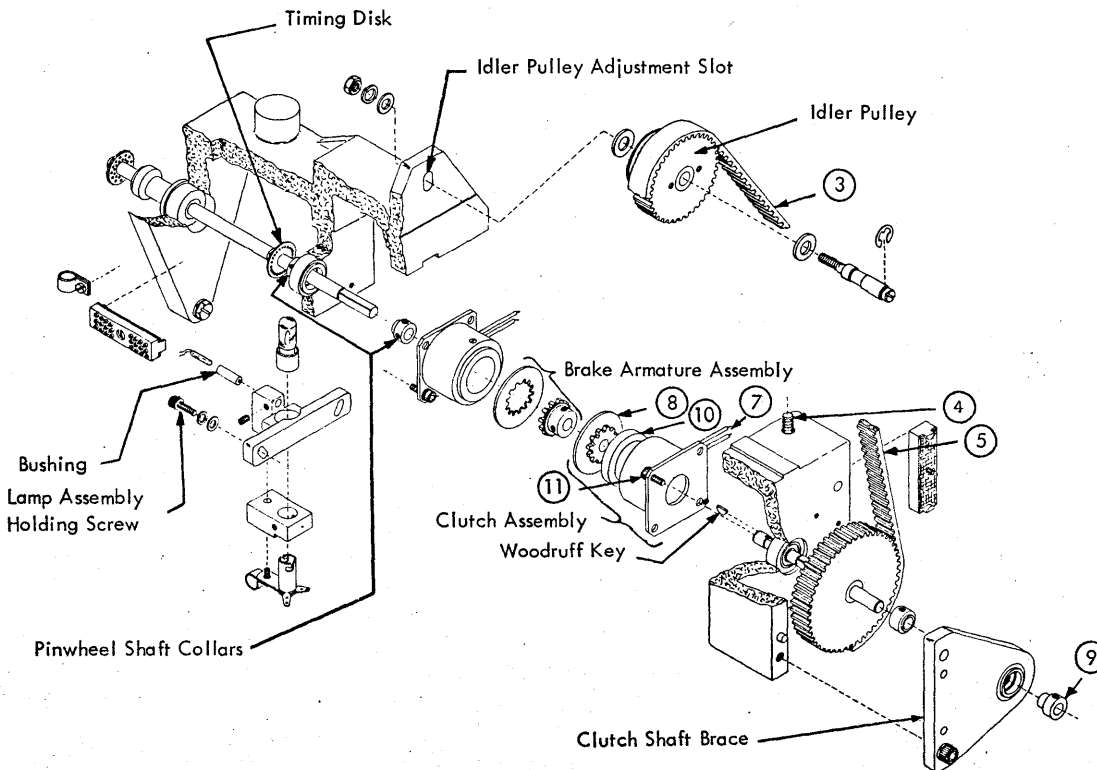

Figure 4-17. Pinwheel Shaft and Clutch Shaft Assembly
Position each motor so that each belt can be moved at its center point  $\pm \frac{1}{2}$ ". Position the idler pulley (Figure 4-17) in the idler pulley adjustment slot for  $\frac{1}{2}$ " deflection in the clutch shaft belt.
2. Remove the screws holding the clutch shaft brace to the frame. Remove the collar on the end of the clutch shaft. Remove clutch shaft brace from end of frame. See Figure 4-17.
The pinwheel should be centered in the read head groove with approximately .010" clearance on each side. This adjustment is accomplished by positioning the two collars shown in Figure 4-17. The brake assembly must be removed to adjust the rear collar. Check the clearance between the timing disk and the photo diode after making this adjustment.
Numbered balloons in Figure 4-17 refer to the steps following: